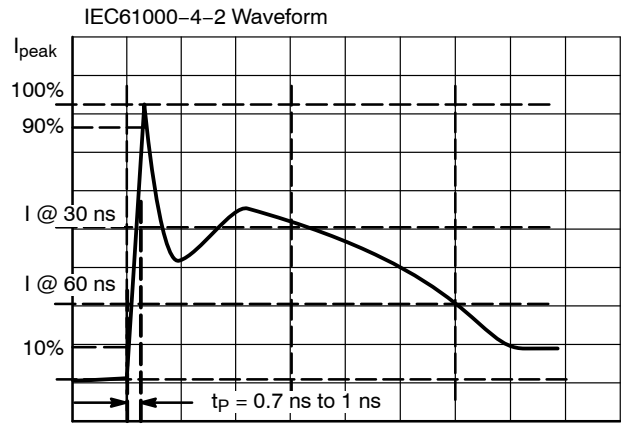

Figure 3. IEC61000-4-2 Spec
- For test procedure see Figures 3 and 4 and application note AND8307/D.